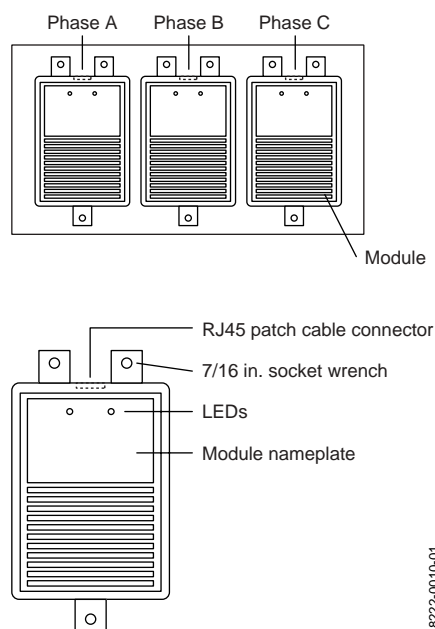

Figure 1: TVSS Device and Modules, Top View
1. Verify that all replacement modules have the correct catalog number. The catalog number is found on the nameplate of each existing and replacement module (see Figure 1) and on the TVSS device nameplate. Use Table 1 to determine the correct replacement catalog number based on the existing IMA TVSS system voltage and peak surge current rating.